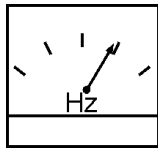

Figure 43. Frequency Meter
5. The generator's frequency meter (Figure 43) should be displaying the 60 cycle output frequency in **HERTZ**.